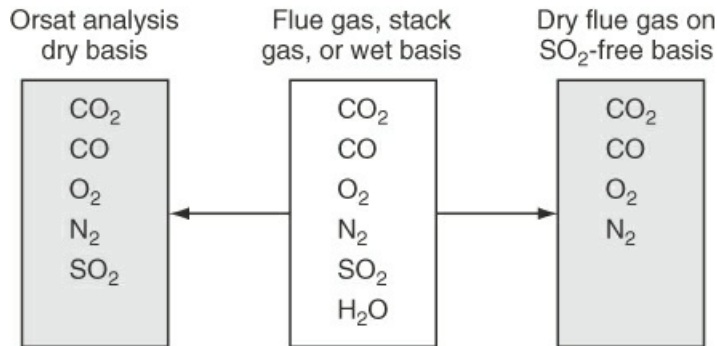

Figure 4.6 Comparison of gas analysis on different bases
- **Orsat analysis, or dry basis:** All of the gases resulting from a combustion process *not including the water vapor*. (Orsat analysis refers to a type of gas analysis apparatus in which the volumes of the respective gases are measured over and in equilibrium with water; hence, each component is saturated with water vapor. The net result of the analysis is to eliminate water as a component that is measured.) See Figure 4.6. To convert from one analysis to another, you have to adjust the percentages of the components to the desired basis, as explained in Chapter 2.